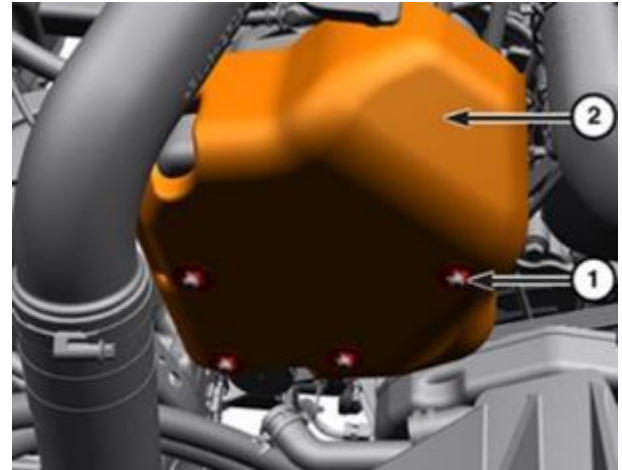

Figure 7 – Pump Cover
- 14. Remove the retainers (1) that secure the cover (2) for the high-pressure fuel pump (Figure 7).